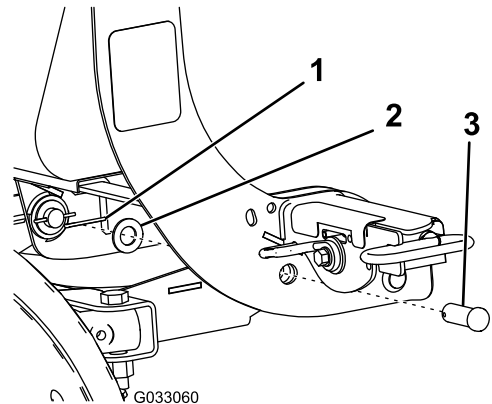

Figure 4
7. Align the pivot holes of the coupler tower with the pivot holes on the push-frame assembly, and secure them with 2 pivot pins, 2 flat washers (3/4 inch), and 2 cotter pins (Figure 4).